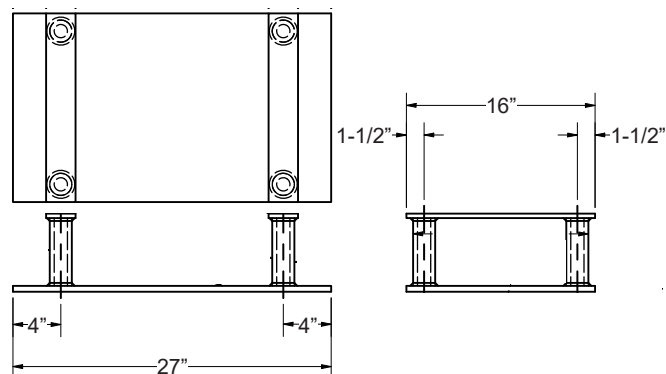

Figure 15
• Drive Embed Method (Part #7953-0195, Figure 15)